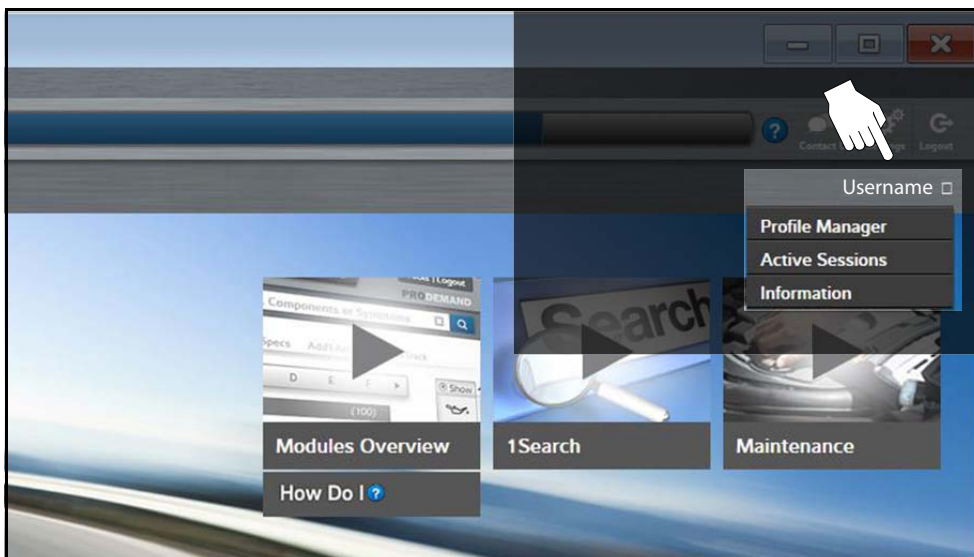

Figure 10-13
2. At the ShopKey Pro start page, select your username (Figure 10-13), then select **Profile Manager** from the dropdown menu.